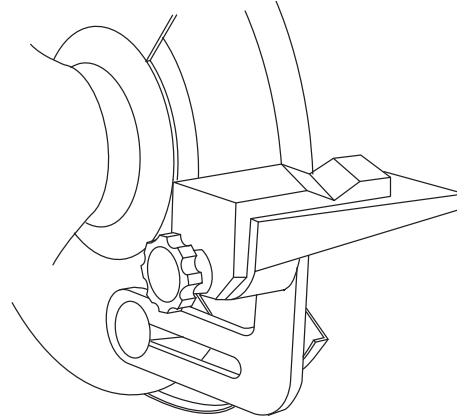

Figure 5 - Install the drill bit sharpening plate.
4. Install the drill bit sharpening plate by loosening the right side adjustment knob until there is approximately a 1/4" of threads visible. Place the plate onto the right side tool rest and over the visible threads. The flat washer must be placed between the plate and the adjustment knob. Tighten the adjustment knob. See Figure 5.